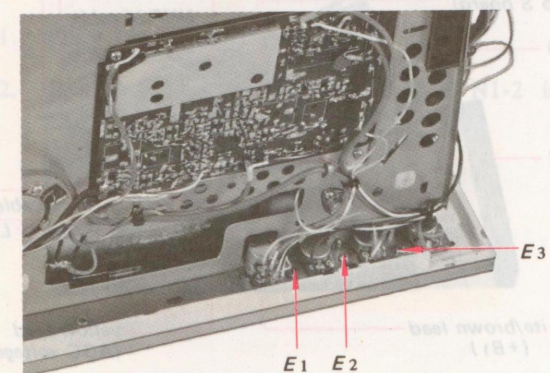

Fig. 2-8. Control bracket removal
3. Remove the three screws labeled E1-3 in Fig. 2-8.